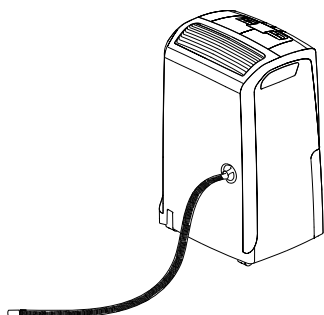

fig. 4
- 2) Insert the drain cap **1** in the condensate drain hose (8) till the end (fig. 3) then screw the cap into the spout. (fig. 4).